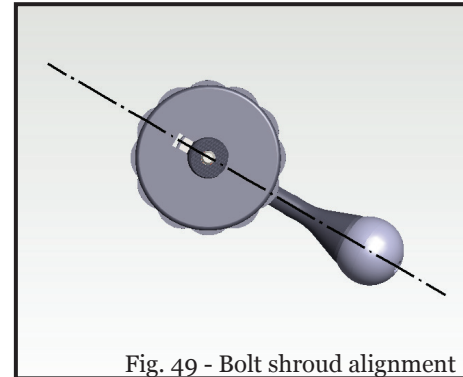

Fig. 49 - Bolt shroud alignment
3. When the cocking piece points opposite to the bolt handle (Fig. 49), push the bolt shroud hard towards the bolt body so that the bolt shroud meets the rear part of the bolt body.